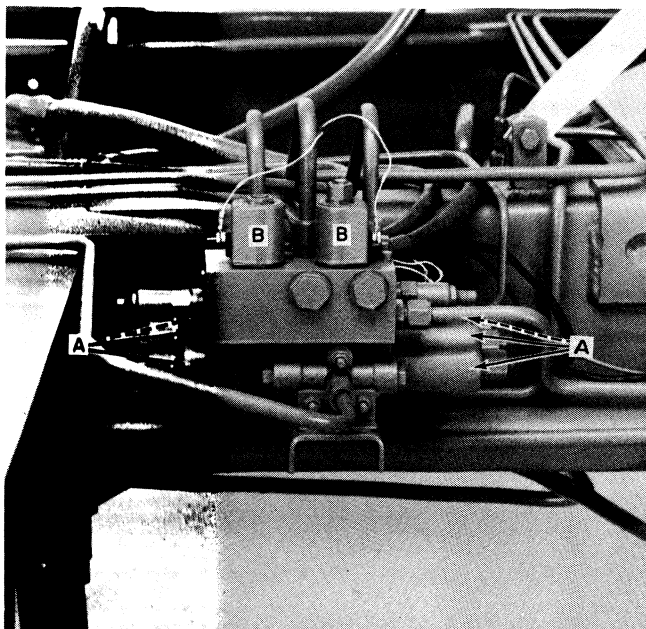

FIGURE 2-8
- Replace the six solenoids (9V), A, Figure 2-8, with the new 12-volt solenoids provided (Fluid Power Systems).
- Replace the first table dump and rolling rack dump solenoids (9V), B, Figure 2-8, with the new 12-volt solenoids provided.